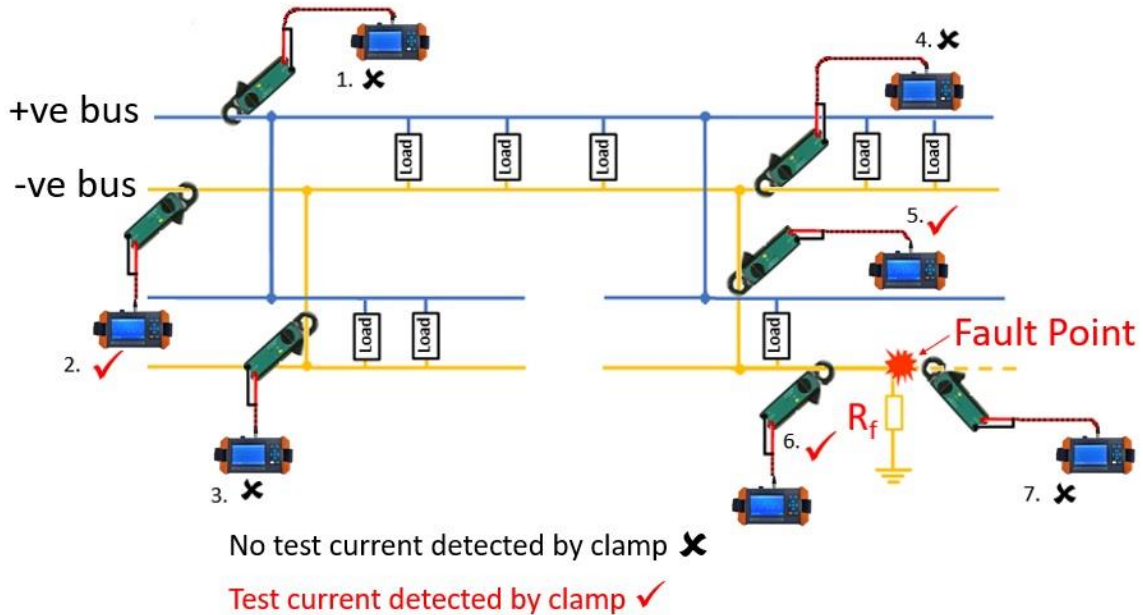

Figure 4.4 Fault pinpointing process for single earth fault
- i. The single point earth fault pinpointing process is shown in Figure 4.4.